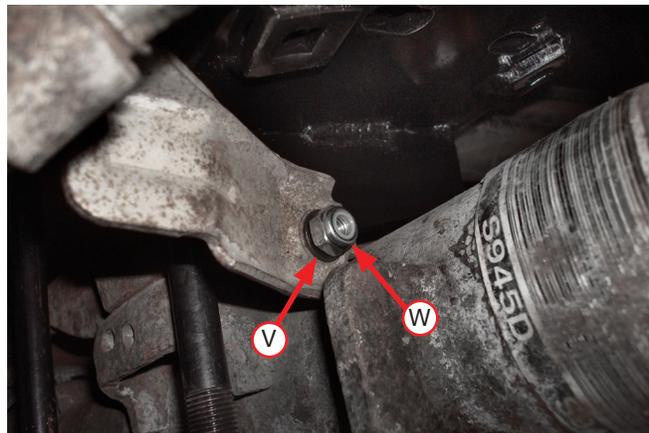

Fig. 12
12. Once the lower brackets are in position and the U-bolts are in place, install the passenger's (right) emergency brake cable bracket onto the bolt previously installed (Fig. 12) making sure the "tab" on the bracket indexes in the space between the lower bracket and axle. Cap with a flat washer (V) and nylon lock nut (W). Leave loose at this time.